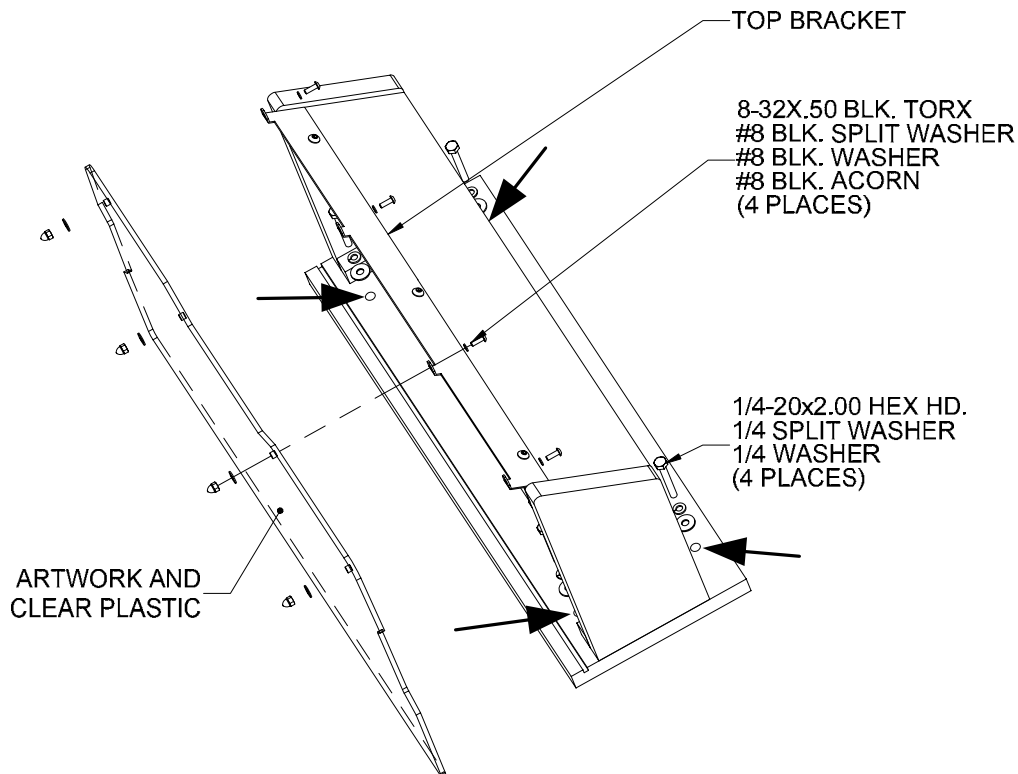

Figure 3. Marquee Assembly
4. To install the marquee on top of the cabinet, refer to Figure 3 on the next page. Remove the four Torx screws with nuts and washers that secure the artwork and clear plastic to the marquee top bracket. Remove the artwork and clear plastic to access the inside of the marquee. The bolts and washers for mounting the marquee should be packed inside the marquee assembly.
5. Position the marquee on top of the cabinet and secure it in place with four ¼-20 bolts with washers, as shown in Figure 3 on the following page. The four large arrows in the figure show the locations for the four mounting bolts.